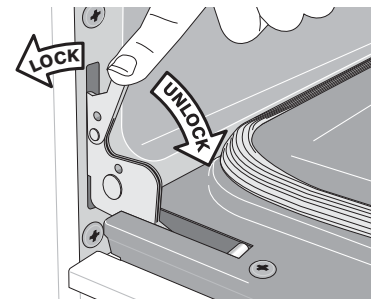

Figure 42: Door hinge locks
2. Pull the door hinge locks on both left and right door hinges down from the oven frame completely towards the oven door (See Figure 42). A tool such as a small flat-blade screwdriver may be required.
4. Push the door hinge locks up towards and into the oven frame on both left and right oven door hinges to the locked position (See Figure 42).